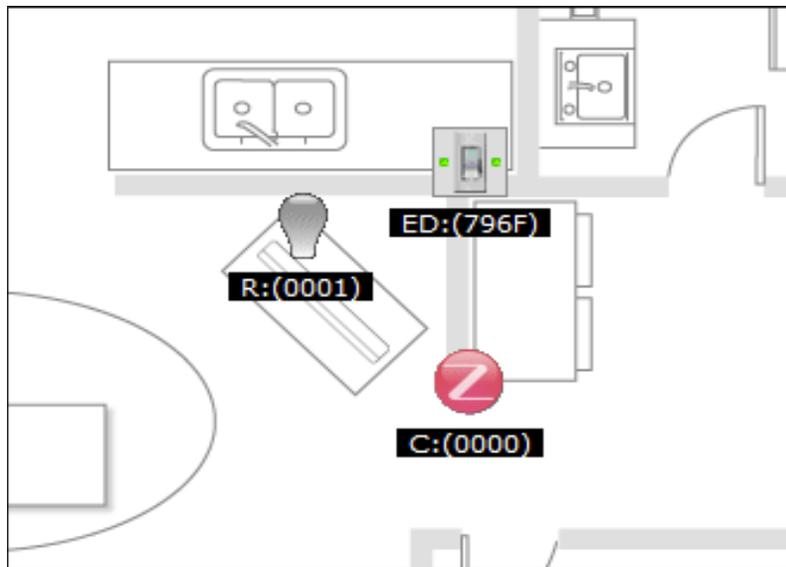

Figure 4-3. ZeD Main Window Showing On/Off Light Icon (Bulb Off State)
- Briefly press SW1 on the board running the On/Off Light application so that it will join the network. As shown in Figure 4-3, the On/Off Light endpoint icon (a light bulb) appears after a few seconds on the ZeD main window close to the Combined Interface icon. Notice that the light bulb icon is currently displayed in the off state.